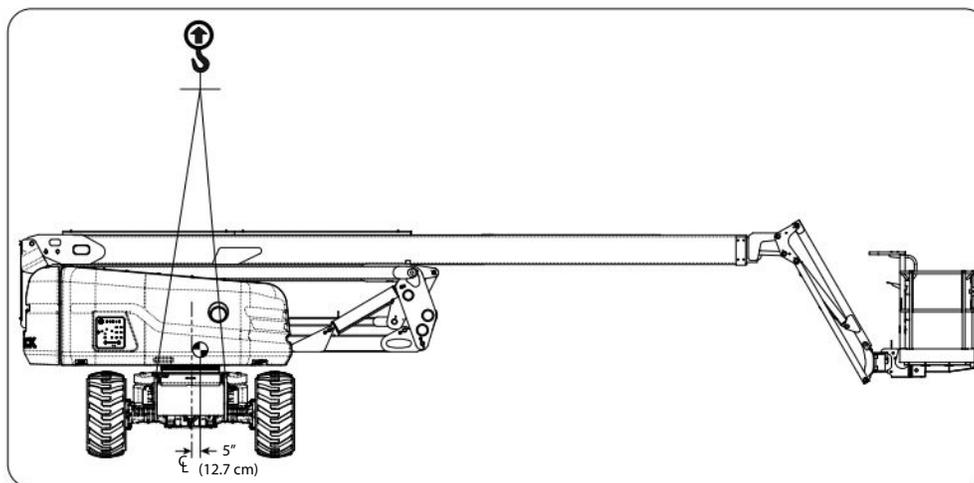

Figure 29 Center of Gravity
1. Rotate the boom and position the MEWP as shown in Figure 29.
4. Properly adjust rigging to ensure MEWP remains level during lifting. See Center of gravity location (Figure 29).